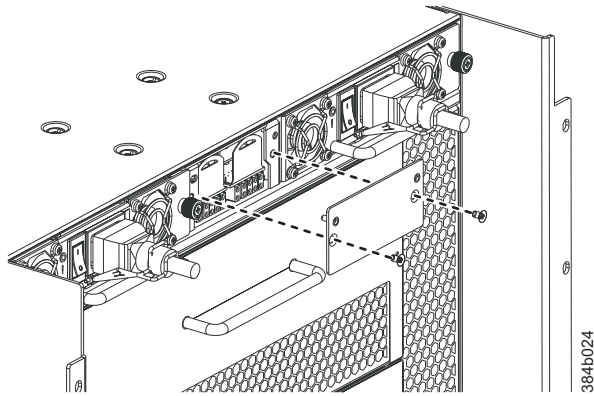

Figure 41. WWN bezel and card removal and installation
8. Remove the two screws from the WWN bezel . Pull the bezel away from the chassis and set it aside (see Figure 41). The two WWN cards are now visible.
6. Install the WWN bezel. Orient the bezel on the chassis (Figure 41 on page 94). Insert and tighten the two screws.